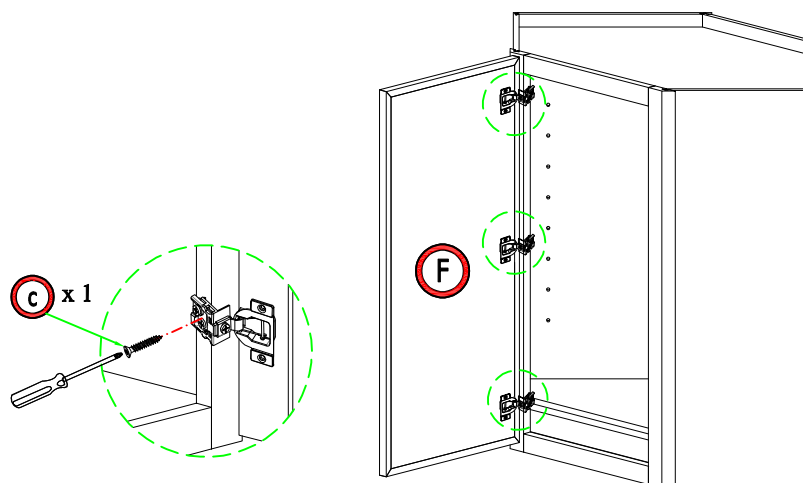

Figure 9
9. Assemble door with hinges to left and right of cabinet frame by 2 screw 4/5" (Figure 9)